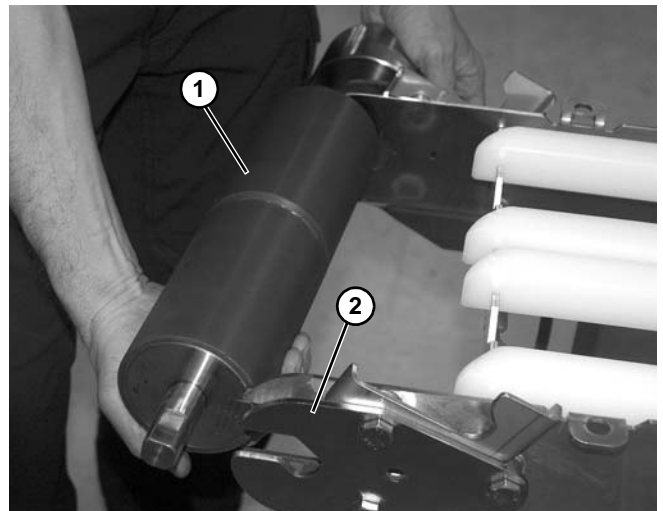

Figure 130
3. Rotate and remove the motorized pulley assembly (Figure 130, item 1) off the drive tail blocks (Figure 130, item 2).